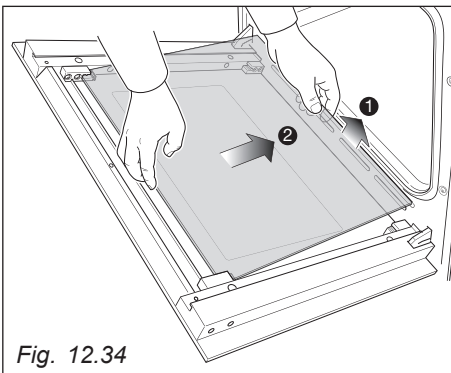

Fig. 12.34
- Gently lift the bottom edge of the pane (arrow 1 in fig. 12.34) and remove it by pulling it out from the top clamps (arrow 2 in fig. 12.34).